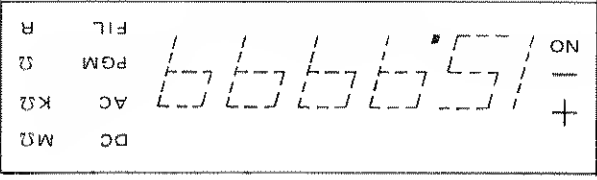

Figure 2.4 - Readout
2.22 The display consists of 6 LED decimal readout devices with moving decimal point. The decimal point moves in conjunction with the range switch or automatically in auto range. Maximum usable readout with overrange is 159999. Overload is indicated by a NO and 160000 readout. A non-compatible range and function is indicated by a NO. However, mechanical interlocks are provided to prevent illegal combinations from the front panel. Figure 2.4 illustrates the readout, NO indicator, polarity sign and the annunciator.